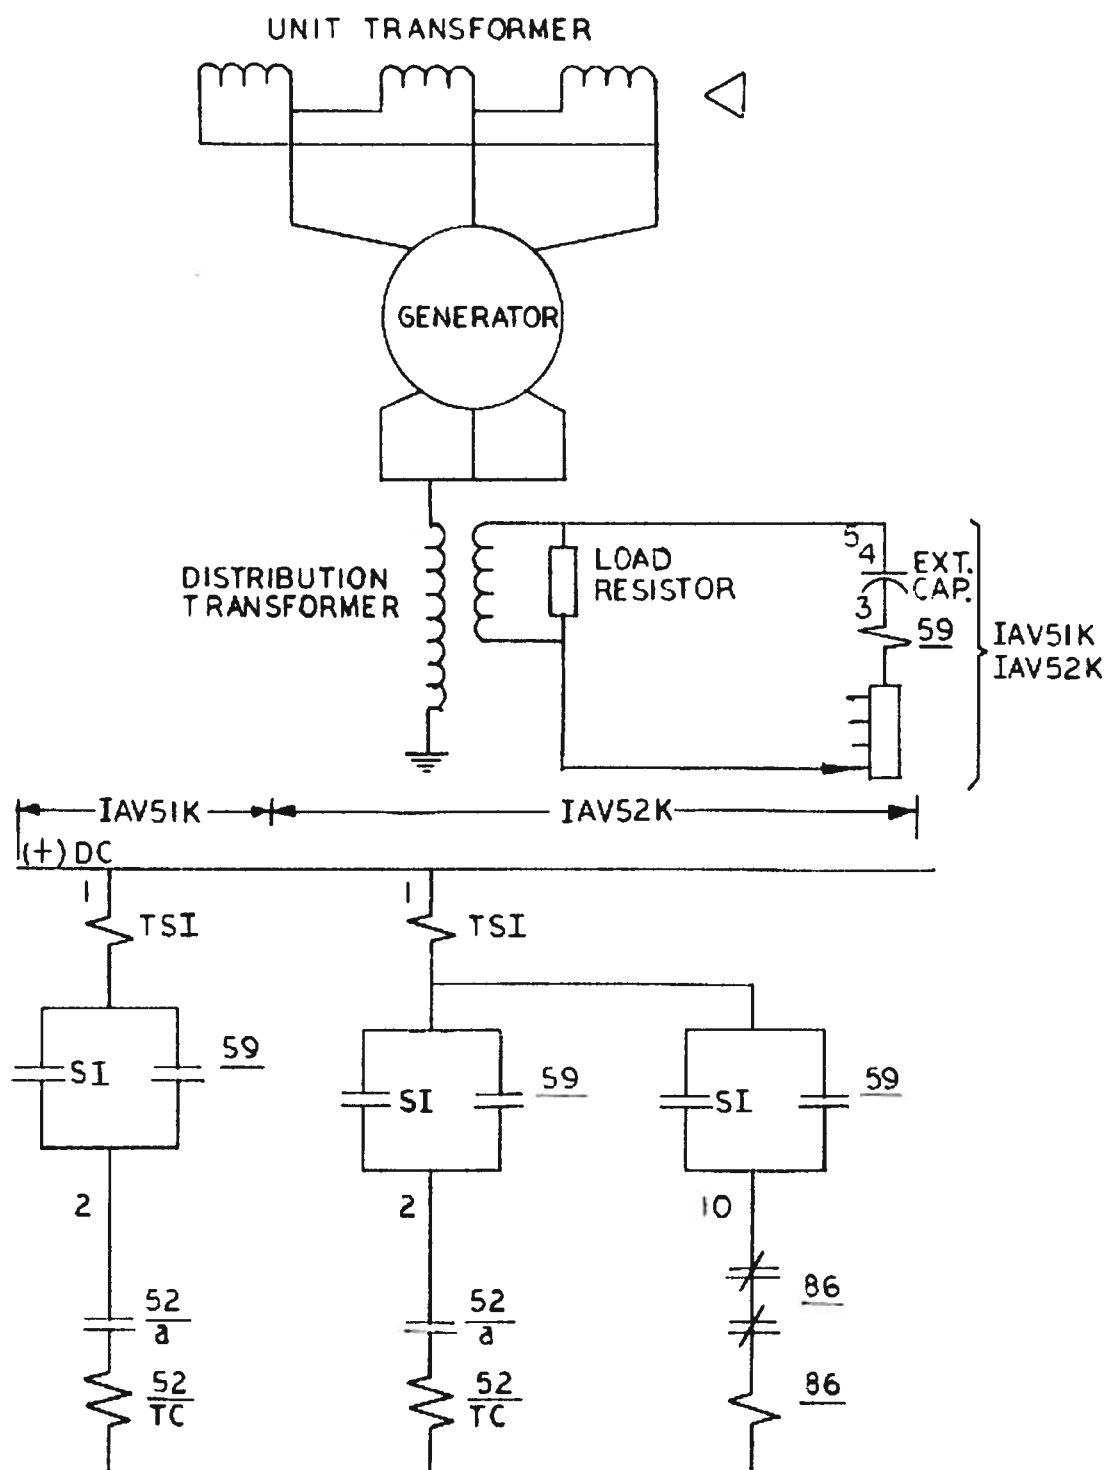

FIG. 8 (0275A2004-0) EXTERNAL CONNECTION DIAGRAM OF TYPES IAV51K AND IAV52K FOR GENERATOR GROUND-FAULT PROTECTION
- FIG. 8 (0275A2004-0) EXTERNAL CONNECTION DIAGRAM OF TYPES IAV51K AND IAV52K FOR GENERATOR GROUND-FAULT PROTECTION